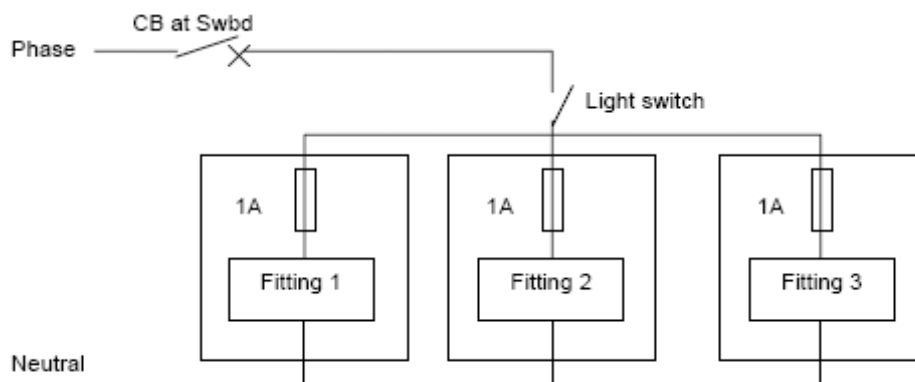

Fig 1
b) Explain how back up protection is provided in the circuit in Fig1.
- d) What is meant by discrimination as applied to circuit protection and how is discrimination achieved in Fig1.